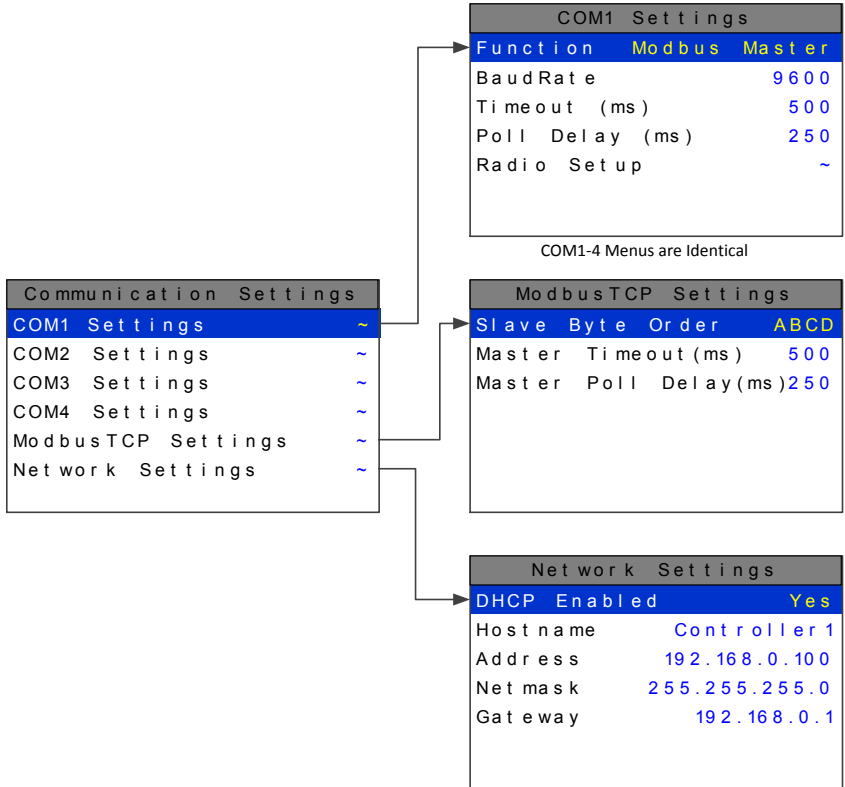

Figure 2-22
**COMMUNICATION SETTINGS** menu is accessed through the **MAIN MENU**. This menu is used to configure the four possible communication ports. Once in the **COMMUNICATION SETTINGS** entry menu, shown on the left in Figure 2-22, use